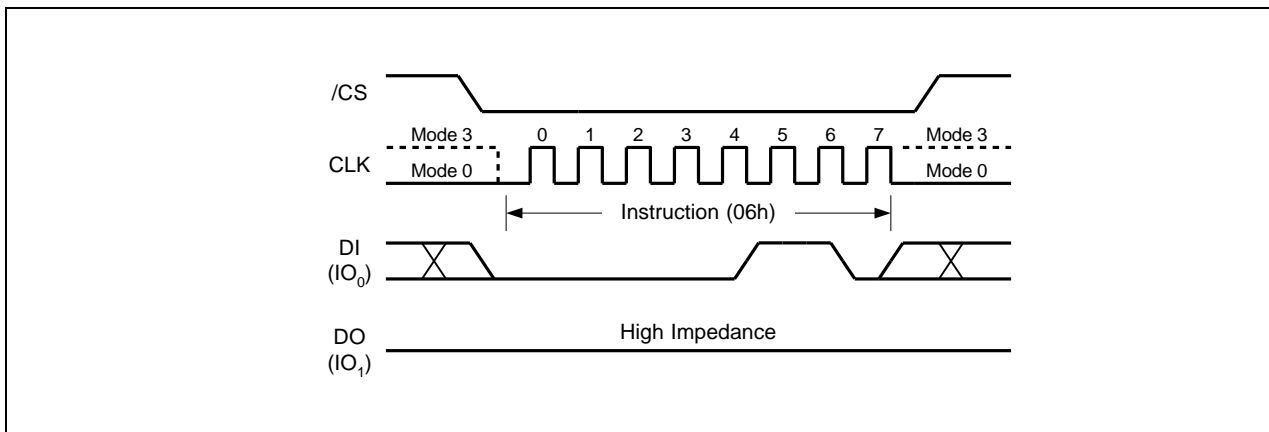

Figure 5. Write Enable Instruction for SPI Mode
The Write Enable instruction (Figure 5) sets the Write Enable Latch (WEL) bit in the Status Register to a 1. The WEL bit must be set prior to every Page Program, Quad Page Program, Sector Erase, Block Erase, Chip Erase, Write Status Register and Erase/Program Security Registers instruction. The Write Enable instruction is entered by driving  $\overline{\text{CS}}$  low, shifting the instruction code “06h” into the Data Input (DI) pin on the rising edge of CLK, and then driving  $\overline{\text{CS}}$  high.